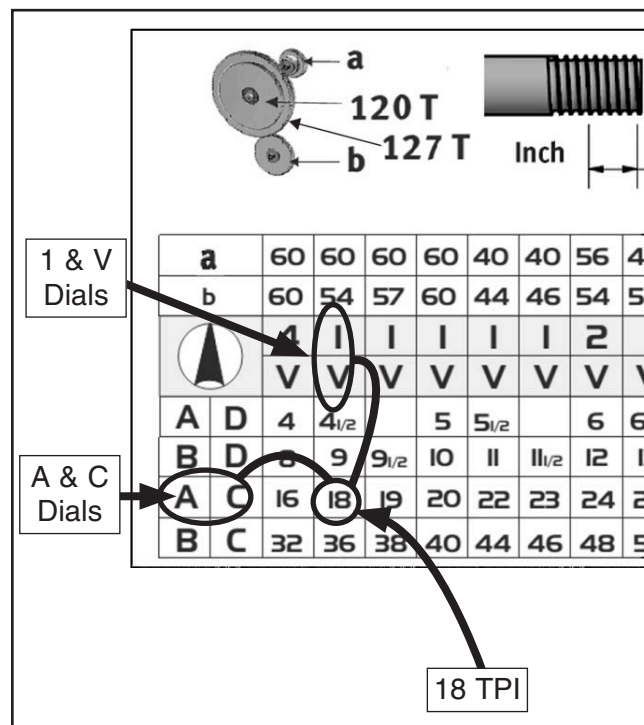

Figure 82. 18 TPI and corresponding dial positions.
1. Locate 18 TPI on the inch threading chart shown in **Figure 82**.